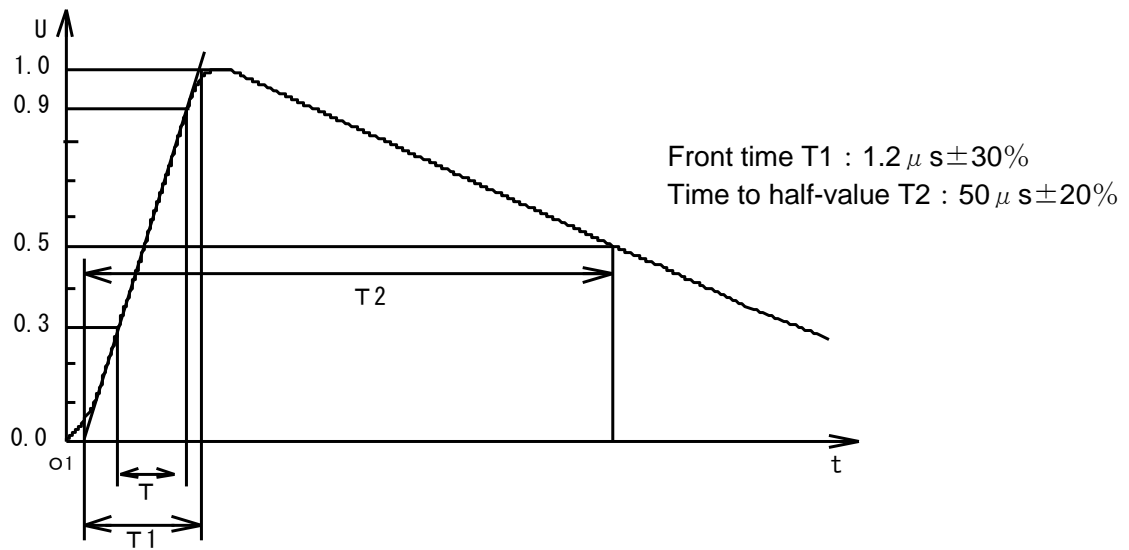

Fig. 24
5. Increase the output voltage to 10kv, press the MANUAL trigger switch ⑦ and check the waveform displayed on the oscilloscope screen.
6. The waveform is seen as shown in Fig. 24. For details of the waveform, refer to the JEC-212 standard.